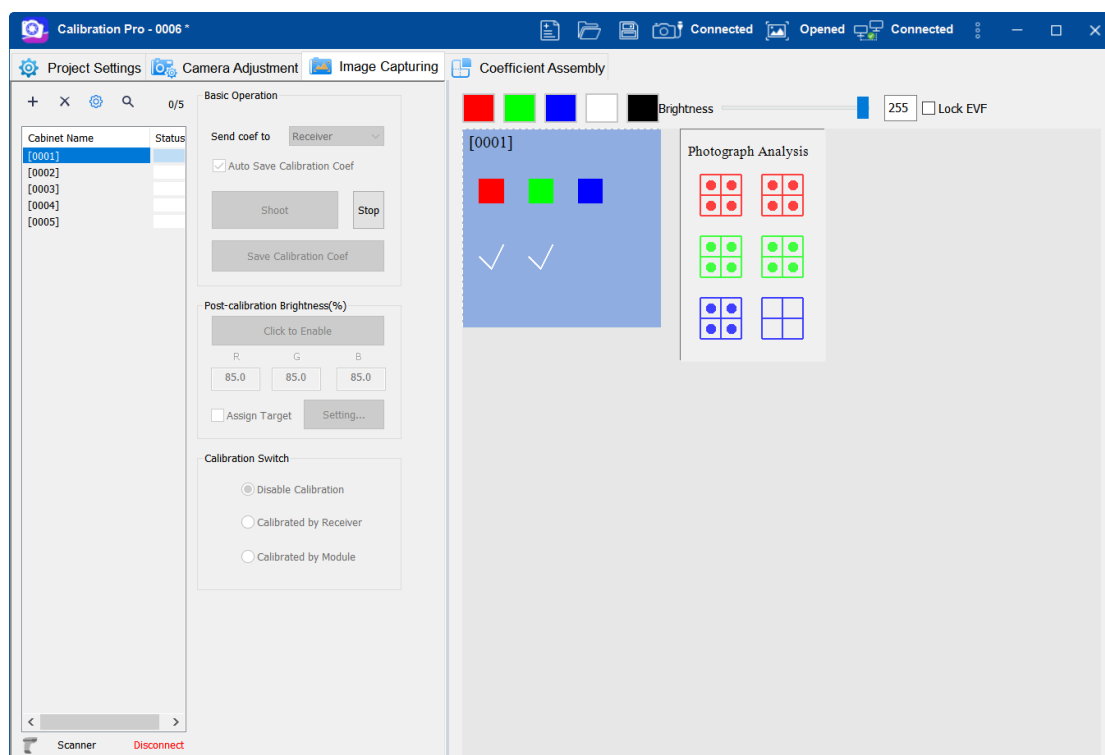

Fig.4-4 Analysing
2. After analysis completed (Fig.4-4 ,when three colors present $\sqrt{\quad}$, it means that all the analysis are completed), the correct coefficient will be auto sent to receiver card (By default, the coefficient will be sent to receiver card automatically. Or, you may uncheck [**Auto Save Calibration Coef**] to disabled the function.).